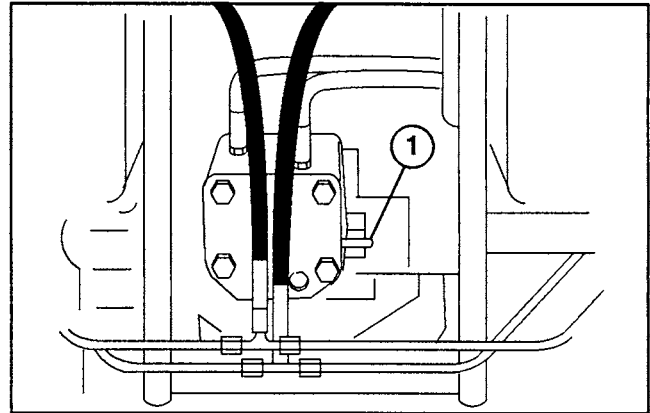

Figure 3
PUSH UNIT OFF PALLET (Fig. 3)
1. Rotate by-pass valve 1/2 turn counterclockwise (Fig. 3).